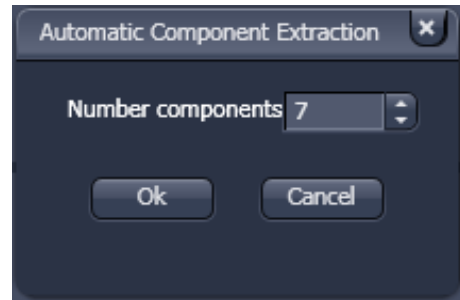

Fig. 566 ACE, number of components selection window
- Select the number of components in the sample and click **Ok** (Fig. 566). If a subset of existing spectra has been already defined by manual ROIs or by spectra from the spectra database, the number of remaining components is selected for ACE.